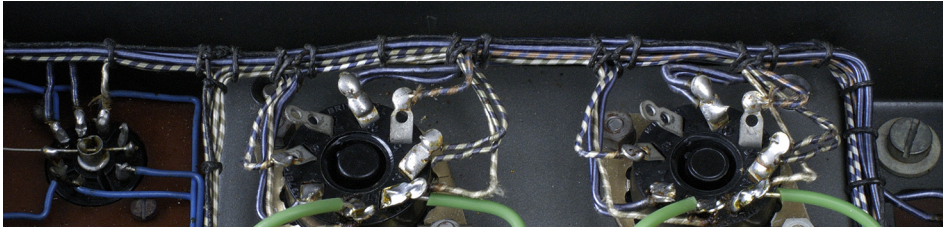

Figure 3.40
1. Position the components in a regimented manner in neat lines, and use neatly harnessed wiring to make the complex interconnections. The parallel wires in the harness inevitably increase stray capacitances, but this method was used in the Quad II power amplifier. See Figure 3.40.